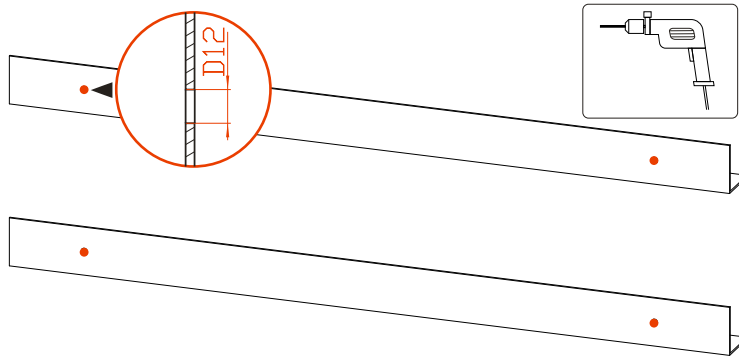

Figure3-14 Drilling holes (unit: mm)
Step 3 Use the electric drill to drill holes on the bracket according to the marked position. The drilling size is $\Phi 12\text{mm}$, as shown in Figure3-14.